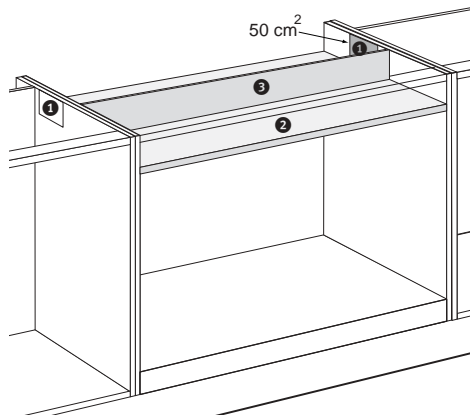

Fig. 12
- 1 Saw out the ventilation opening(s), making sure that the total surface of the holes is a minimum of 100 cm². See fig. 12, for example, showing 2 holes of 50 cm².